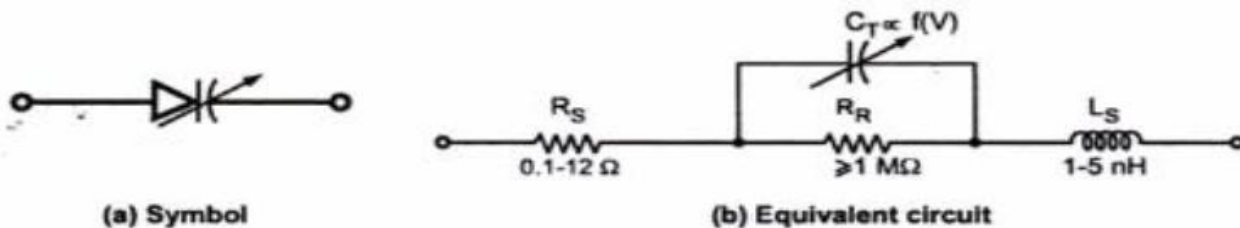

Fig. 5.23 Varactor diode
- The Fig. 5.23 (a) shows the symbol of varactor diode while the Fig. 5.23 (b) shows the first approximation for its equivalent circuit in the reverse bias region.